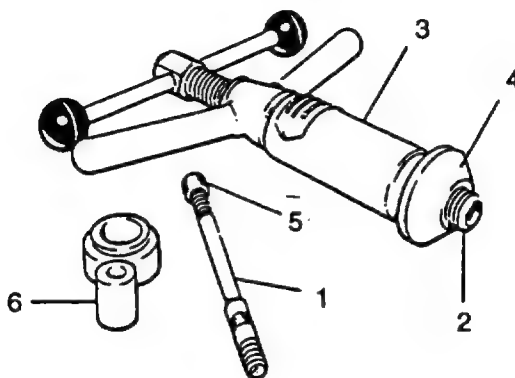

FIGURE 3-29. Valve Guide Tool and Depth Stop
- a. Using valve guide replacement tool (317-50033), refer to **FIGURE 3-29**; remove each valve guide as follows:
- (1) Place cylinder head on its side in a soft-jawed vice.
- (2) Screw mandrel (1) into tool (2).
- (3) Place sleeve (3) onto tool.
- (4) Fit bevelled adapter (4) into sleeve (3) and locate bevel into valve seat.
- (5) Locate mandrel (1) through guide from valve seat side.
- (6) Screw small threaded sleeve (5) onto mandrel (1) at valve rocker side.
- (7) Holding sliding handle firmly to prevent rotation, turn double handled lever clockwise until guide is withdrawn through head.
- (8) If it is found difficult to start moving guides a sharp tap with a copper hammer should break seal.
- c. Using valve guide removal and replacement tool (317-50033), refer to **FIGURE 3-29** install each valve guide.
- (1) Install mandrel (1) into valve guide hole from valve rocker end.
- (2) Place valve guide over mandrel (1) with counterbored end of guide facing towards valve seats.
- (3) Place depth stop (317-50108) (6) over mandrel (1) and screw on threaded sleeve (5).
- (4) Fit tool complete with bevelled adapter (4) onto mandrel (1) at valve seat side.
- (5) Hold sliding handle firmly to prevent rotating. Turn double handled lever clockwise until depth stop prevents further movement. At this point guide will protrude 0.463 to 0.482 in. (11.75 to 12.25 mm) above cylinder head.